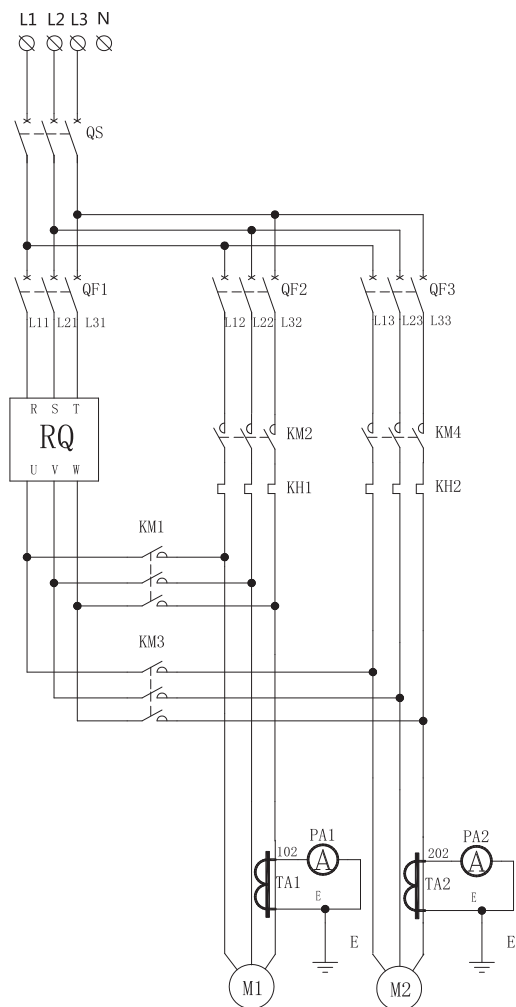

Figure B.2 See figure for the main circuit diagram of one for two.
B.2.1 See Figure B.2 for the main circuit diagram of one – for - two.